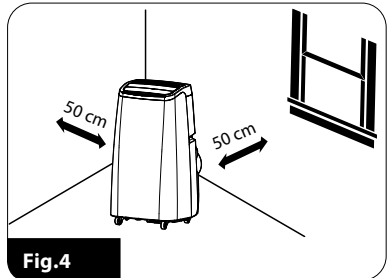

Fig. 4
5. Put the air conditioner in place, providing at least 50 cm of free space around the appliance (Fig. 4).
6. The external connector (16) at the other end of the duct (15) should be mounted in the window using the included mounting kit. You can use one of two types of mounting kits: for hinged and sliding windows.